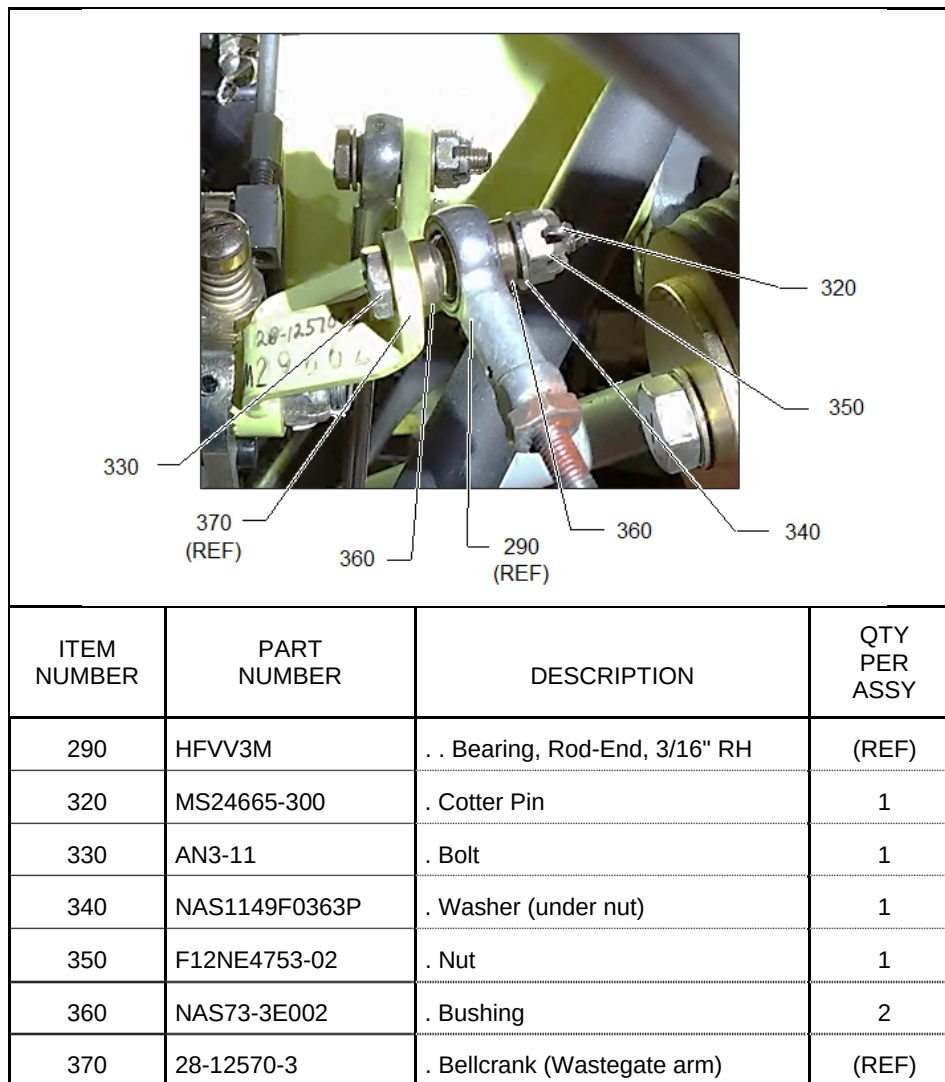

Figure 1. Wastegate Linkage Installation
- 6.1 Wastegate Linkage Assembly (Figure 1)
Refer to Figure 1 for the parts listing. This information supersedes F-28/280 Series Illustrated Parts Catalog Figure 3-28, Item Numbers 320 through 360
- 6.1.4 Reinstall the wastegate linkage assembly with new hardware in accordance with Figure 1 (torque 15-25 in-lbs/1.7-2.8 Nm).
(Note: Figure 1 supersedes F-28/280 Series Illustrated Parts Catalog Figure 3-28.)